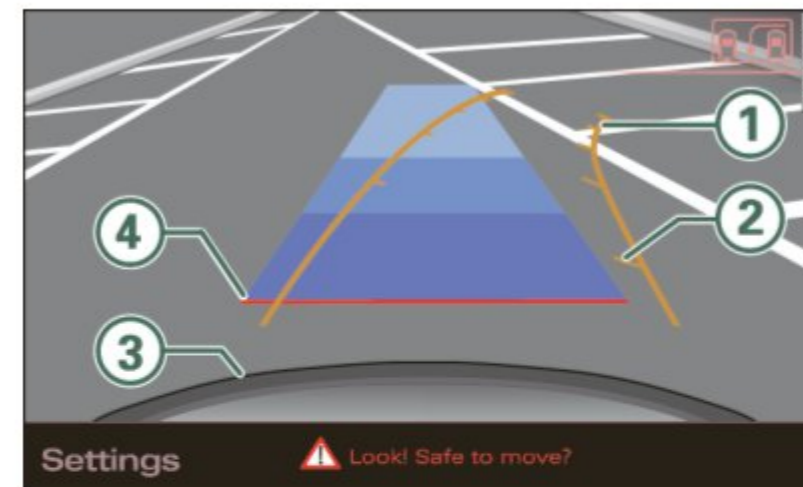

Fig. 165 MMI Display: Aiming at a parking spot
- Turn the steering wheel until the orange orientation lines ① appear in the parking spot ⇒ *page 160*, fig. 165. Use the markings ② to help you estimate the distance from an obstacle. Each marking corresponds to 3 ft (1 m). The blue area represents an extension of the vehicle's outline by approximately 16 ft (5 m) to the rear.
- While driving in reverse gear, adjust the steering wheel angle to fit the parking space with the aid of the orange orientation lines ⇒ ⚠. ③ marks the rear bumper. You should stop driving in reverse as soon as and no later than when the red orientation line ④ abuts an object ⇒ ⚠!